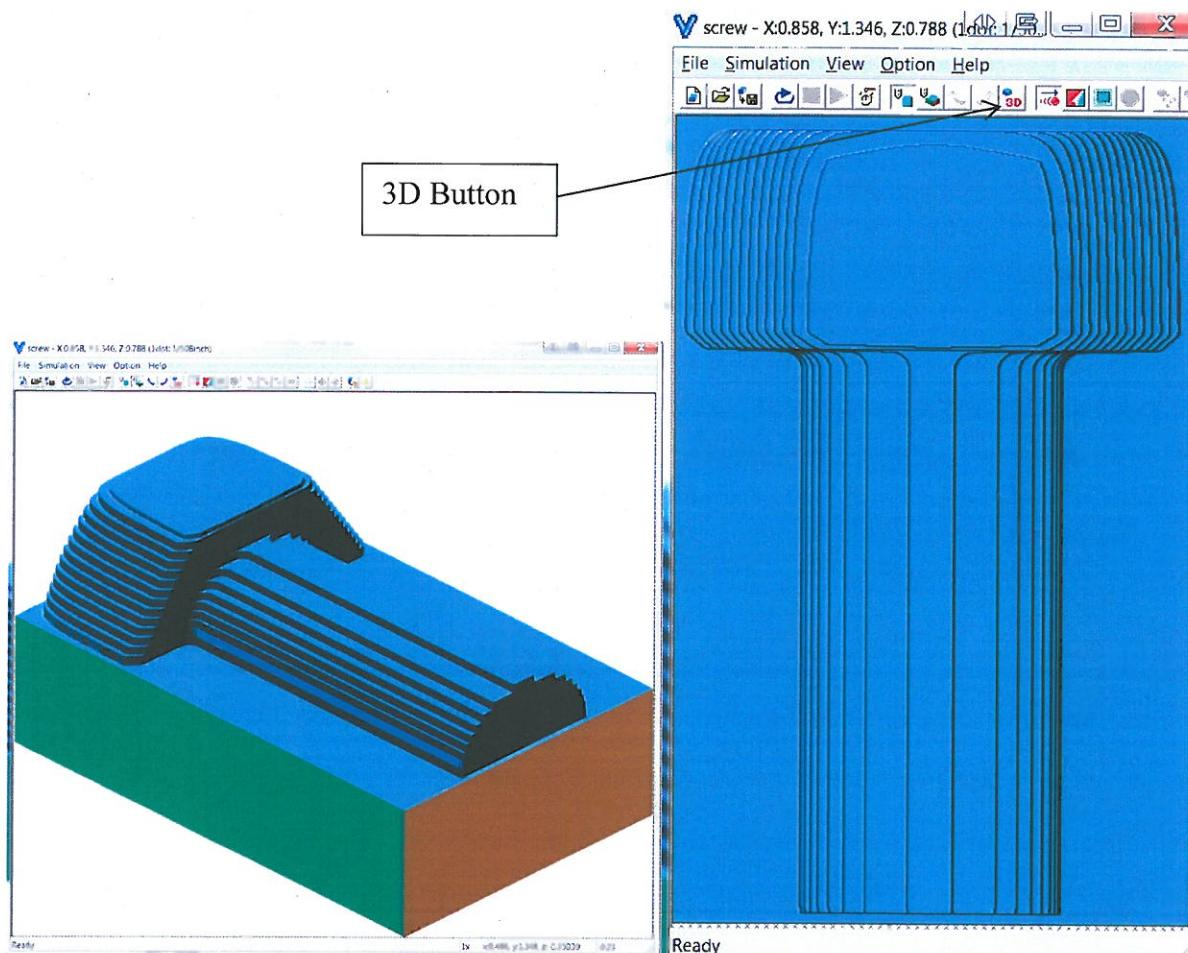

Figure 14: Rendered Images of the Milling Results
10. To see a render of the model go to **File—Output Preview**. To change to a 3D view, press the **3D BUTTON** on the menu bar (Figure 14).